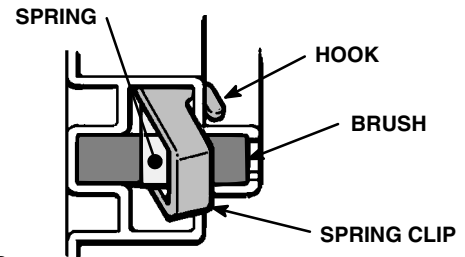

Fig 25-2
2. Push in the spring clip to release its hooks from the brush holder. Pull out the spring clip. Refer to Fig 25-2.